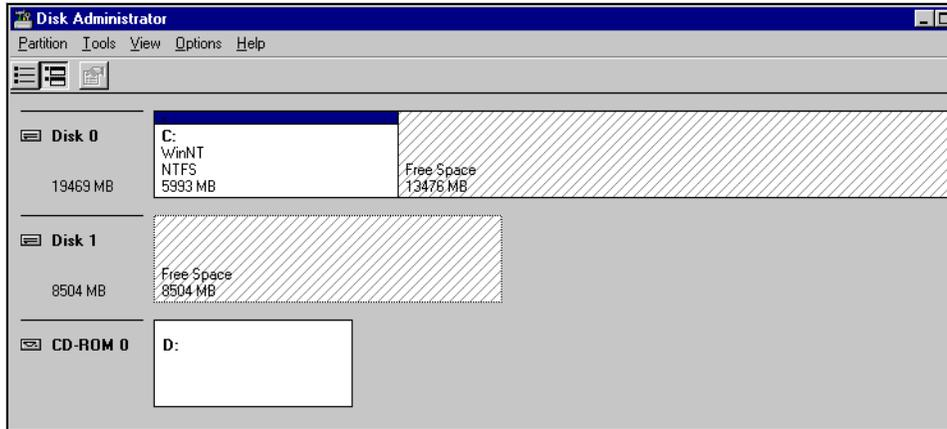

Figure 1-20 New device recognized
An alternative way to access the switch is by using a Web browser, such as Internet Explorer. Just type the switch IP address and the switch main menu appears as shown in Figure 1-20.
- Windows NT recognizes the newly added storage device, as shown in Figure 1-20.